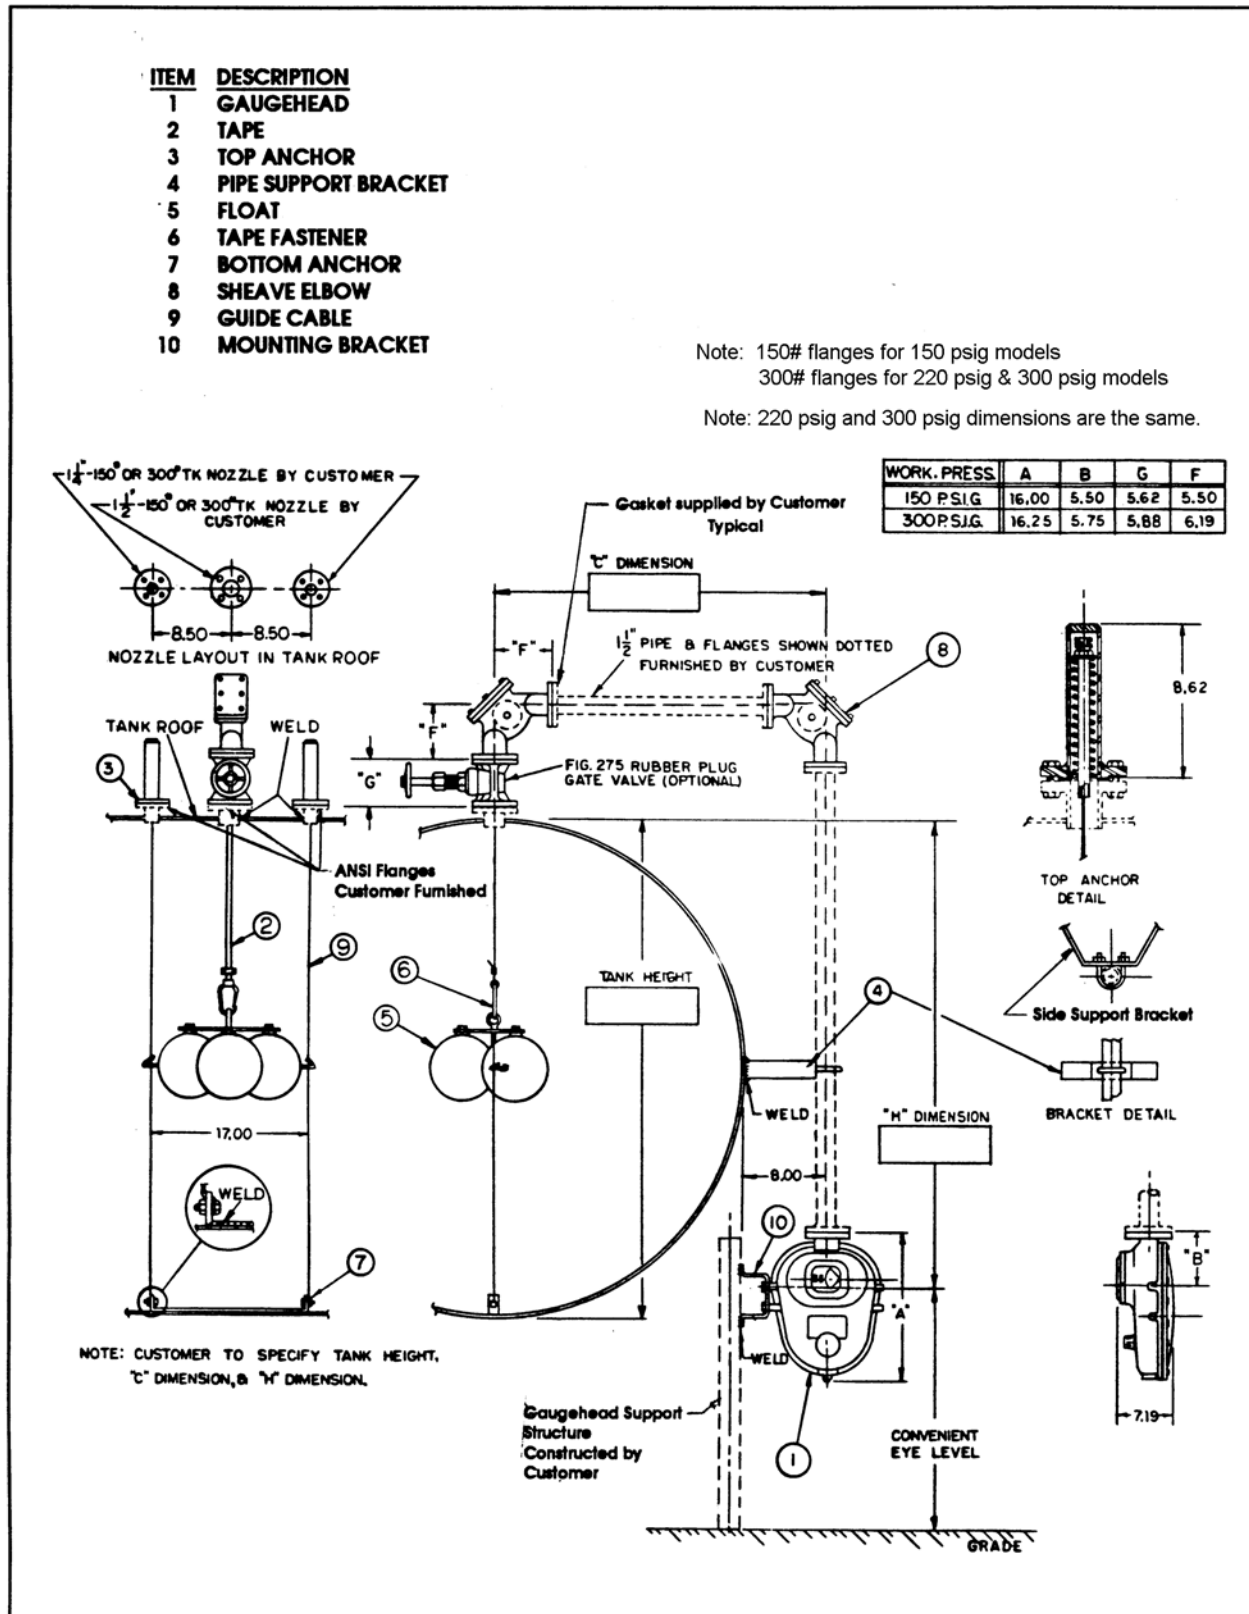

Figure 3-1: Typical Grade Level Installation for Spheres and Cylinders to 16 Feet Diameter
For spheres and cylinders to 16 feet diameter with the gaugehead located on the side, near grade level, see Figure 3-1 on page 13 for N2520 01 T01, N2520 02 T01, N2520 03 T05, N2520 04 T05, N2520 05 T05, and N2520 06 T05 feature/option installation kit codes. Refer to Table 8-1, Table 8-2, and Table 8-3 on pages 57 and 58 for details.
2. Provide the roof holes shown in Figure 3-1 on page 13, centered on this position. The guide cable holes are centered 8.50 inches (216 mm), each side of the center of the cluster of eight inch diameter floats. The tape pipe is centered on a 17.00-inch (432 mm) diameter. The plug valve is also centered on this dimension.
Figure 3-1 shows a typical grade level installation for spheres and cylinders to 16 feet in diameter.